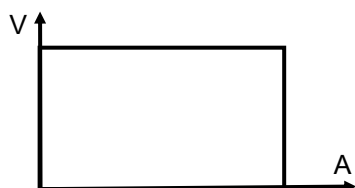

Figure 2. Rectangular current limit
- Connector pinning, see figure 2, page 3.
Due to operation temperature, the circuit can decrease the maximum available current, which basically lower the maximum current rating limit see figure 2 and 3. In the case the load reach this, by temperature set current limit level, then the alarm and LED switch over to alarm state.